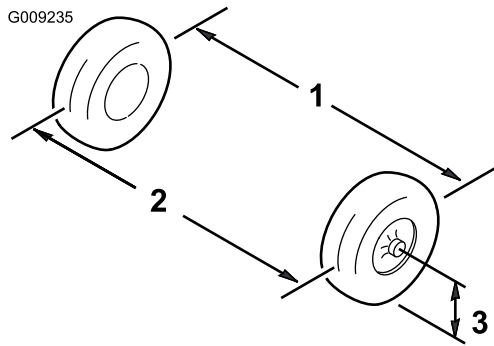

Figure 39
3. Measure the distance between both of the front tires at the axle height at both the front and rear of the front tires (Figure 39).